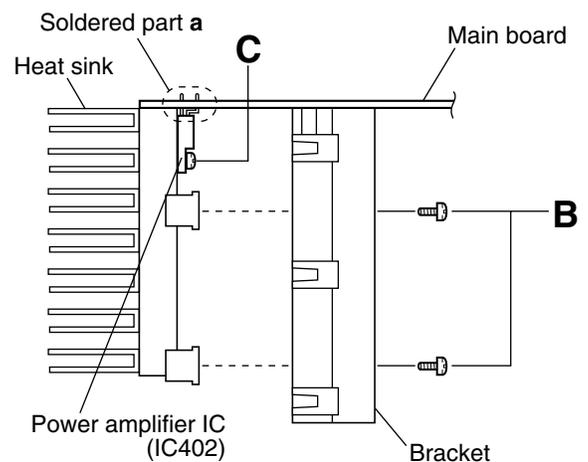

Fig.3
- From the forward side of the main board, remove the four screws **B** retaining the bracket. (See Fig. 3.)
(See Fig. 3.)
- Remove the screw **C** attaching the power amplifier IC onto the heat sink. (See Fig. 3.)
- In order to replace the power amplifier IC, remove the solder from the soldered part **a** on the reverse side of the main board. (See Fig. 3.)